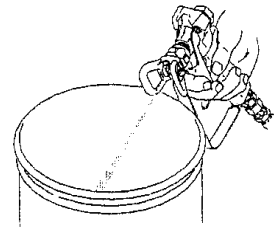

Figure 3-6—Safe Way to Release Hose Pressure
- Release pressure in the hose by triggering gun into a container, then release pressure by activating the pressure release valve as shown in Figure 3-6.